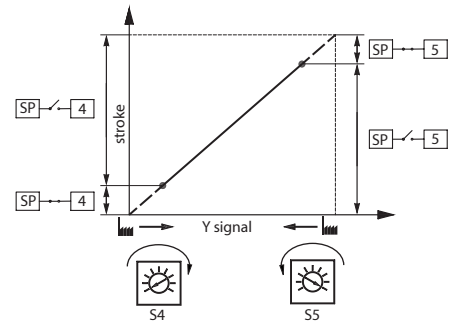

Fig. 5
**DIP6: C/P – Output signal mode selector (Fig. 5.):**